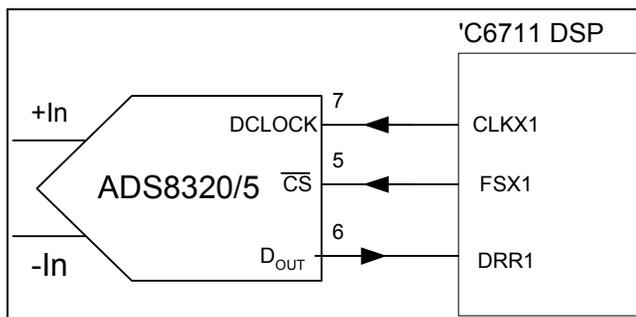

Figure 1. Hardware Interface
The TMS320C6711 DSP starter kit is a low-cost medium for interfacing the TMS320C6711 DSP to the ADS8320/ADS8325. Figure 1 shows how the digital lines should be connected together. In this report the ADS8320/ADS8325 is interfaced to a C6711 DSP via multichannel buffered serial port 1 (McBSP1).
- As we see in the hardware interface diagram (Figure 1), the transmit portion of the McBSP is used for DCLOCK and CS to the ADS8320/ADS8325. On the Transmit Mode tab (Figure 3), CLKX1 is set as output, with rising-edge polarity. The first edge after  $\overline{CS}$  goes low is a rising edge. In this case the sample-rate generator is set to trigger new conversion cycles. NOTE: The Sample-Rate Generator tab is where the conversion frequency is set, described in greater detail in step 6. Also, use the Transmit Mode tab to set the polarity of the  $\overline{CS}$ . It must be set to Active Low to ensure FSX1 goes low when a new cycle begins.